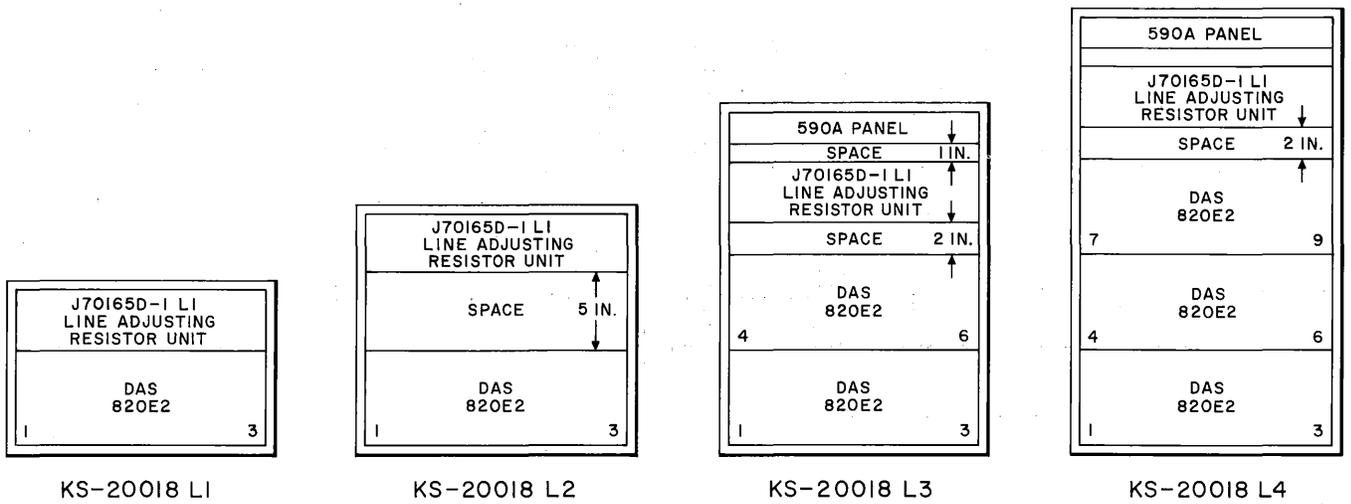

Fig. 10—KS-20018 Cabinet Mounting Arrangement With J70165D-1 Line Adjusting Resistor Unit
- (1) The J70165D-1 L1 provides the mounting panel and resistors for building out eight transmission loops. The mounting panel provides space to mount two L2s (each L2 provides eight build-out circuits) for a total of 24 build-out circuits in a fully equipped J70165D-1 Line Adjusting Resistor Unit.
- (2) A resistor unit can be mounted in a KS-20018 L1 Cabinet without reducing the maximum capacity of the cabinet.
- (3) When a resistor unit is mounted in either a KS-20018 L2, L3, or L4 Cabinet, the maximum capacity of the cabinet is reduced by three data circuits (one fully equipped DAS 820E2) as shown in Fig. 10.